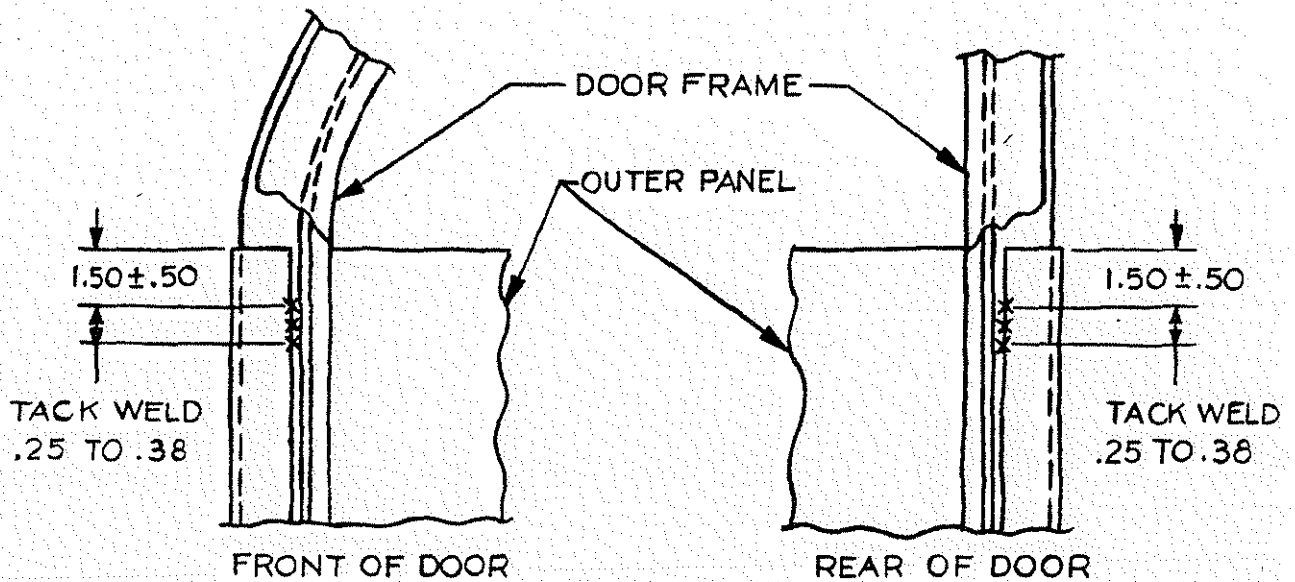

FIGURE 4
4. @ B.L. 34.700, mask is @ Sta. 6.846 & El. 31.312 (Fig. 4)
- 5.) Tack weld the outer panel to the door frame on the inside of the frame's outer flange (see Figure 4). Remove frame support strut.